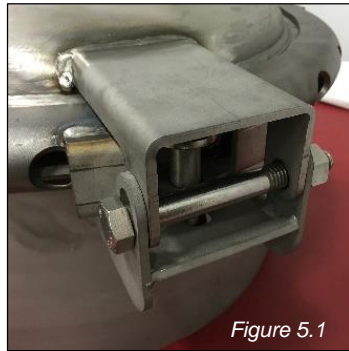

Figure 5.1
2. Support the cover in the “open” position using the handle and remove the cover hinge bolt. Once the cover bolt is removed, push the cover back out of the cover hinge guides located on the body. (Figure 5.1 & 5.2)